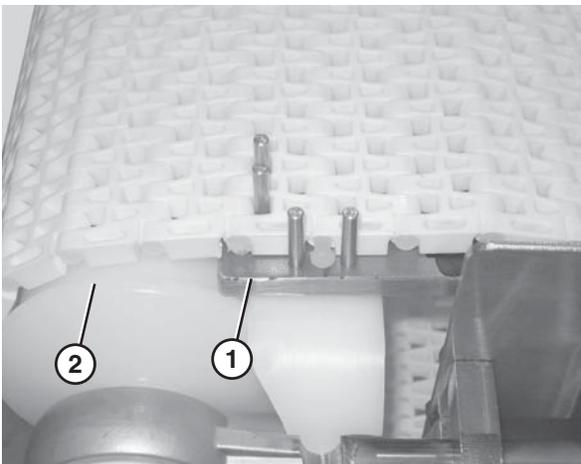

Figure 44
2. Secure the retaining head side of the belt. Use the belt removal tool (Figure 44, item 1) for 1" pitch belts. For all other belts, position the section of belt so that it is braced by the flanged puck (Figure 44, item 2).